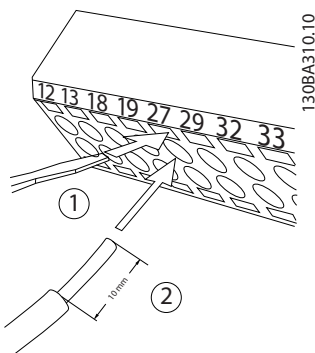

Figure 2.16 Connecting Control Wiring
1. Open the contact by inserting a small screwdriver into the slot above or below the contact, as shown in Figure 2.16.